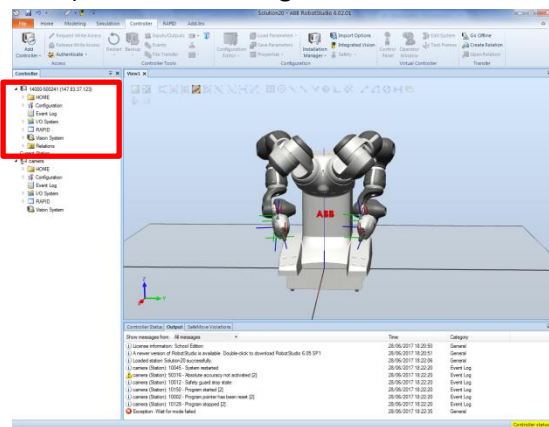

Fig. 5 Connection established
- Next, to connect robotstudio with the robot go to Controller → (click the drop-down) Add controller, as it shows in figure 4, and select the ip of the robot, as it shows in figure5.
5. Now, on the left it has to appear another controller that is call 14000-500241 (147.83.37.123). As it shows in figure 5.